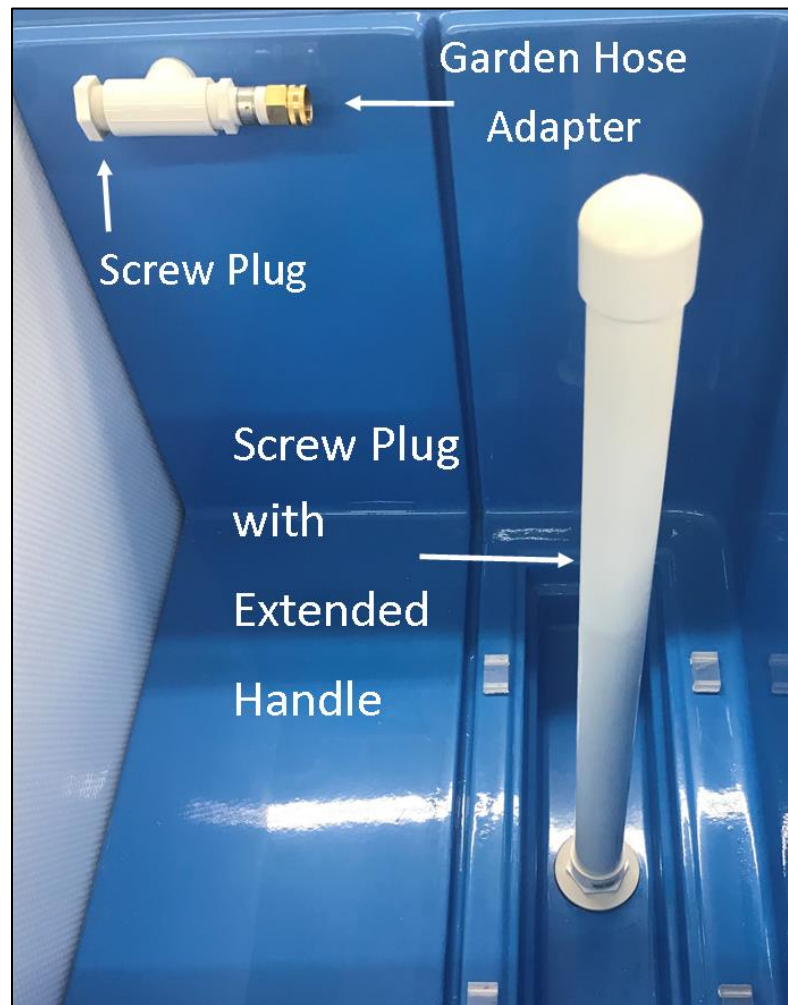

Figure 3 – image of the components installed.
- Carefully attach the screw plug with extended handle into the drain inside the tank and attach the screw plug and the garden hose adapter to opposite ends of the spray bar using a clockwise motion until a good seal is made. Do not over-tighten. See Figure 3.